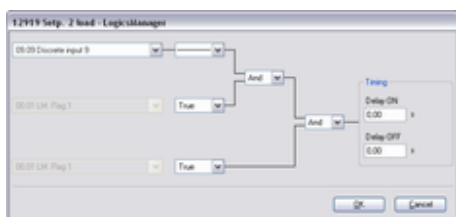

Fig. 227: LogicsManager function "Setp. 2 load"
3. ➤ Configure the LogicsManager function 12919 "Setp. 2 load" as shown in (Fig. 227) to enable load setpoint 2 if discrete input [DI 09] is energized.